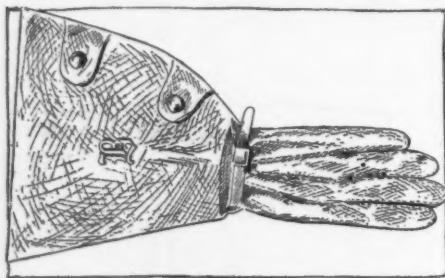

FIG. 29—CUFF GLOVE WITH INITIAL
**Morrison & Ricker Mfg. Co.**—This concern will exhibit its wrist-fit ventilated gloves, Fig. 29. One style has a smooth leather cuff, whereas on another style is a gold initial in old English design. On the wrist of each is a buckle strap for drawing the glove snugly to the wrist, so as to exclude the cold and snow. In addition to its four-fingered glove, one-fingered mittens for winter use are made. Winter gloves are wool, lamb or squirrel-lined, and those for spring and summer use are unlined, or silk-lined with a ventilated back consisting of rows of tiny perforations, too minute to admit dust but allowing for ventilation.